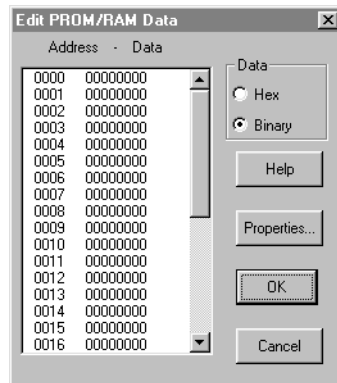

Figure 4.17. Use this dialog box to enter either hexadecimal or binary numbers for the PROM/RAM device.
- 1 Right-click a single PROM or RAM, and then choose **Edit PROM/RAM** to display the dialog box pictured in Figure 4.17.